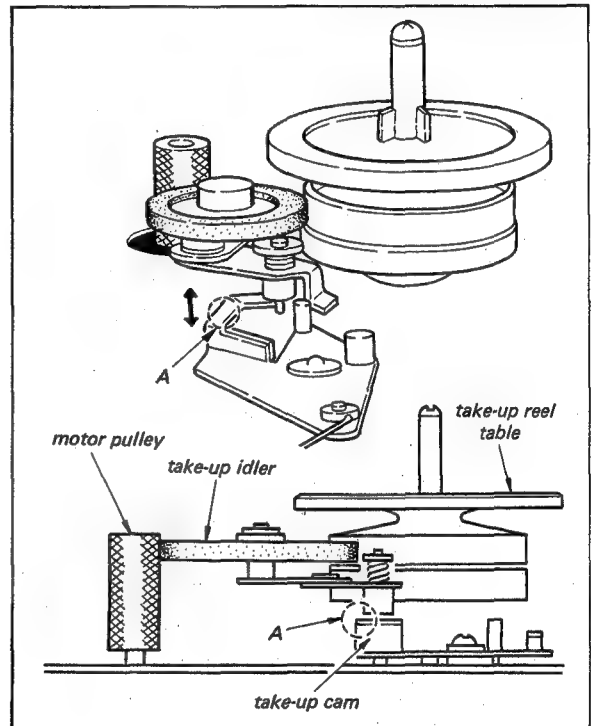

Fig. 4-15. Take-up idler height adjustment
2. If this condition does not exist, place the Function Lever in the FORWARD position. Bend Finger A with a pair of pliers as shown in Fig. 4-15 to obtain the correct Take-Up Idler height.